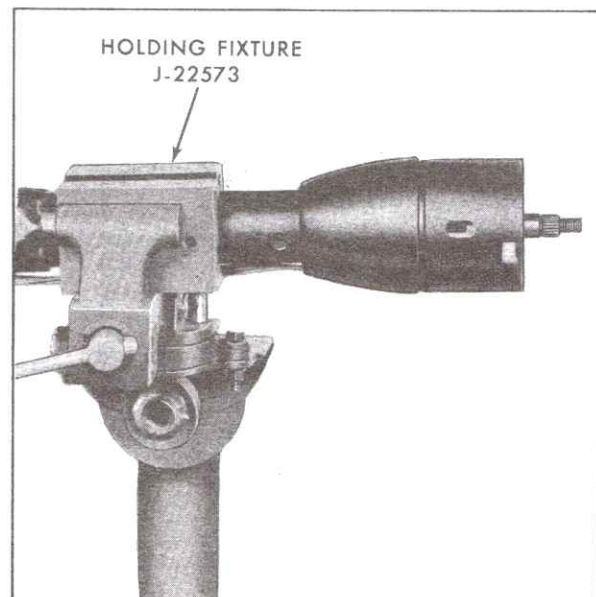

Fig. 9-42 Positioning Holding Fixture on Column
2. Position steering column in Holding Fixture, J-22573, Fig. 9-42.